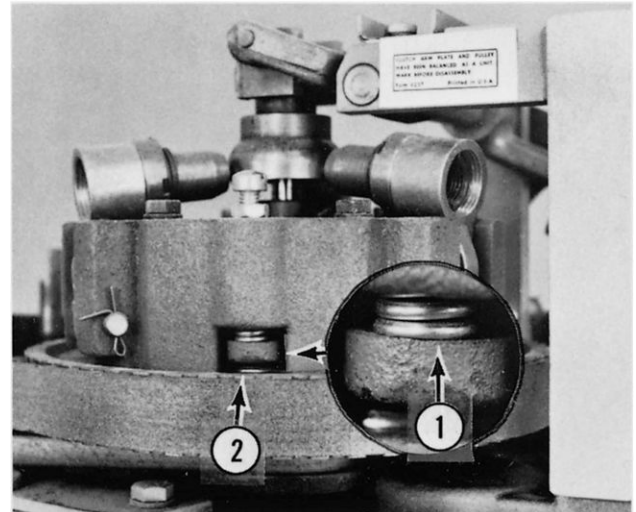

**Fig 7-5**
- (1) Loosen the holding screw (1, Fig. 7-5) and the pivot screw (2, Fig. 7-5).
(2) Move the belt tightener mounting plate (3, Fig. 7-5) to achieve ½" belt deflection between the drive pulley and the power bowl lift pulley.
(3) Tighten both the holding screw and the pivot screw to hold the adjustment.